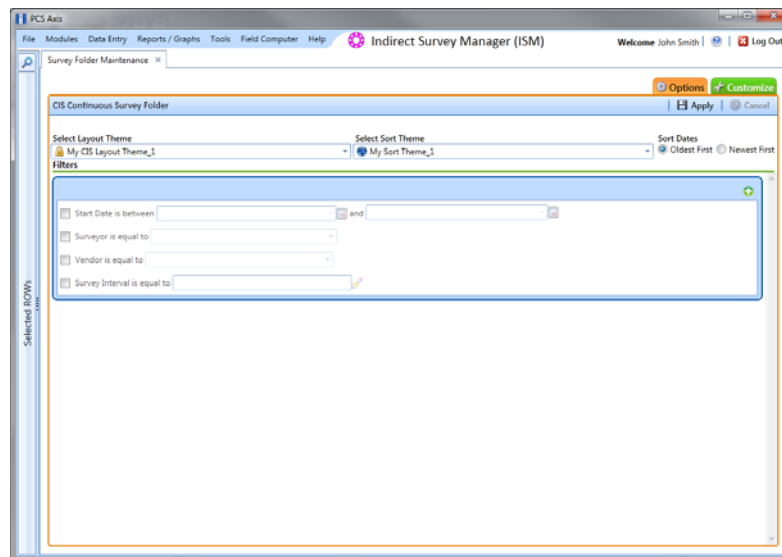

Figure 5-16. Options
- a Click the **Options** tab  to open the options page (Figure 5-16, page 152).